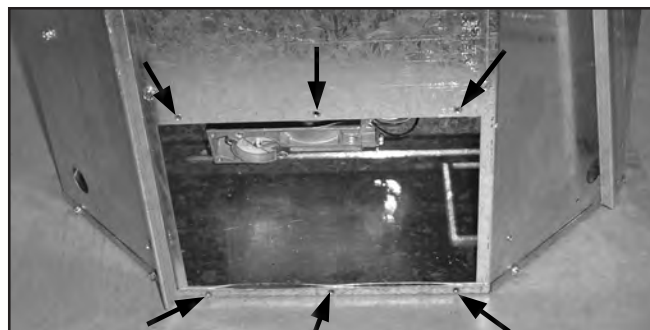

Figure 44: Removing Back Plate From Haven.
1. Use a flat head screwdriver or a 1/4" socket to remove the six (6) screws holding the back cover on (see Figure 44).